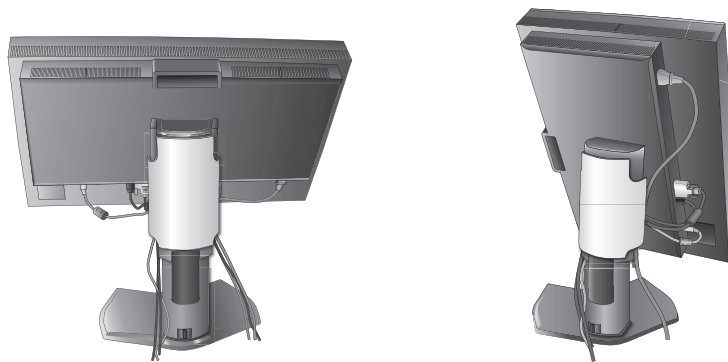

Figure D.1
- Slide down the cable cover (**Figure D.1**).